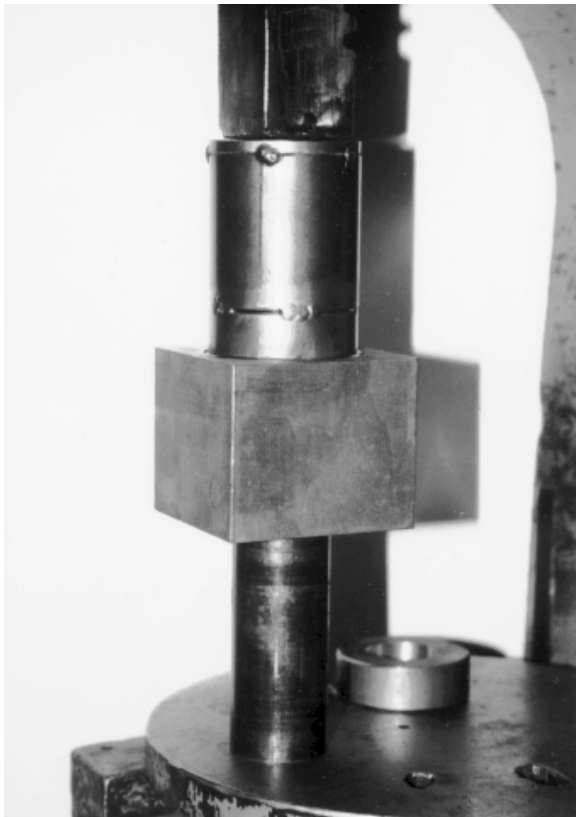

FIGURE 45
11) Clean the bearing journal areas of the arbor shaft with an appropriate solvent. Apply a suitable amount of anaerobic adhesive/sealant to the bearing journal area located near the snap ring groove. Press the arbor shaft into the replacement bearing until it seats itself against the inner race. FIGURE 45.